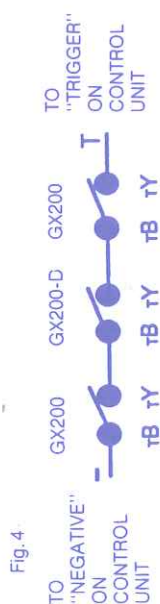

Fig. 4
The detectors can be thought of as "normally closed" switches which open circuit momentarily when movement is detected. The detectors switch contacts are marked TB & TY. The detectors must be wired in "SERIES" as shown in (fig. 4). One end of the chain is connected to Negative (-) and the other end to the Trigger (T) input on the control unit.